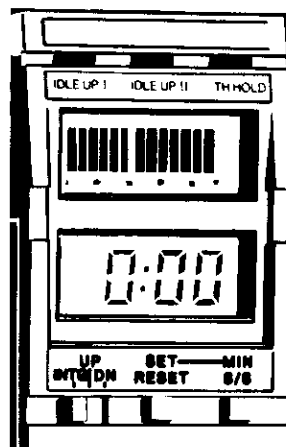

FIGURE 12
Set the transmitter power switch (10) to "on", and INTG-UP-DN Switch to "INTG"; Figure 12. The blinking dots on the timer display indicate that timing has begun, and the total elapsed time that the transmitter is on will be displayed. For example 0:04 indicates that 4 minutes have elapsed. If the transmitter power switch (10), is set to "OFF", counting stops. When the transmitter power switch is turned back on, counting continues. The integrating timer function can be started and stopped every time the transmitter power switch is set to "ON" and "OFF". To clear a count, depress the "Set-Reset" button, with the transmitter switch either "ON" or "OFF". When the transmitter is turned back "ON", a new count will begin. The total elapsed time can be used to forecast remaining NiCd battery capacity as well as other applications. Total time of operation can be displayed such as 1:25, i.e., 1 hour 25 minutes, etc.
The "Up-Timer" can be activated with the transmitter on or off. The "Up-Timer" can be started or stopped by either the button labeled "S/S" on the front panel or by the Start/Stop stopwatch button on the right rear (28), of the transmitter. When the transmitter power switch (10) is set to "ON" an audible beep tone will be heard at each elapsed minute as well as when the Start/Stop button(s) are depressed. The count can be stopped and/or count resumed by pressing the Start/Stop button(s). The total elapsed time of the count is displayed on the liquid crystal display panel, Figure 12. For example, 1:02 indicates that 1 minutes and 02 seconds has elapsed. The count can be cleared by depressing the "Set-Reset" button on the front panel.